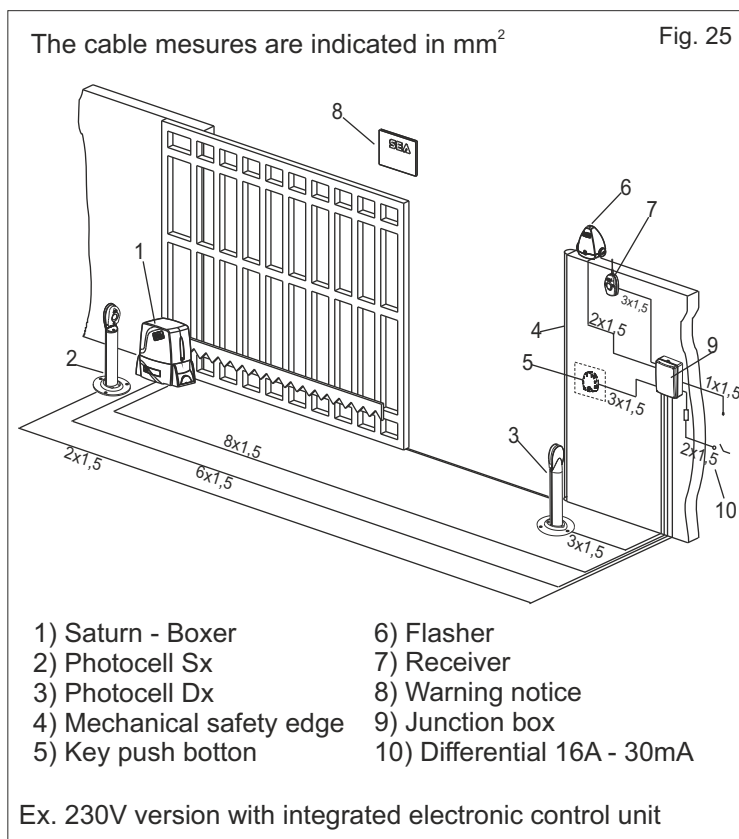

Fig. 25
11. ELECTRIC CONNECTIONS OF THE INSTALLATION (Fig. 25)